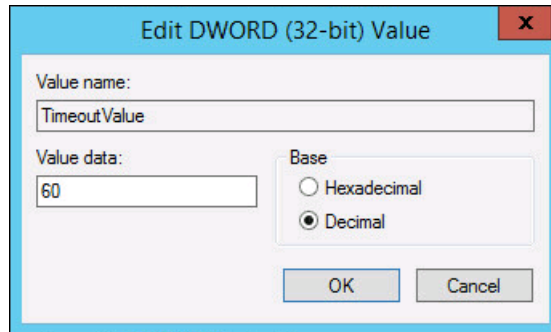

Figure 5-1 Windows timeout value
4. Confirm that the value for the key is 60 (decimal value), and, if not, change the value to 60 (see Figure 5-1).